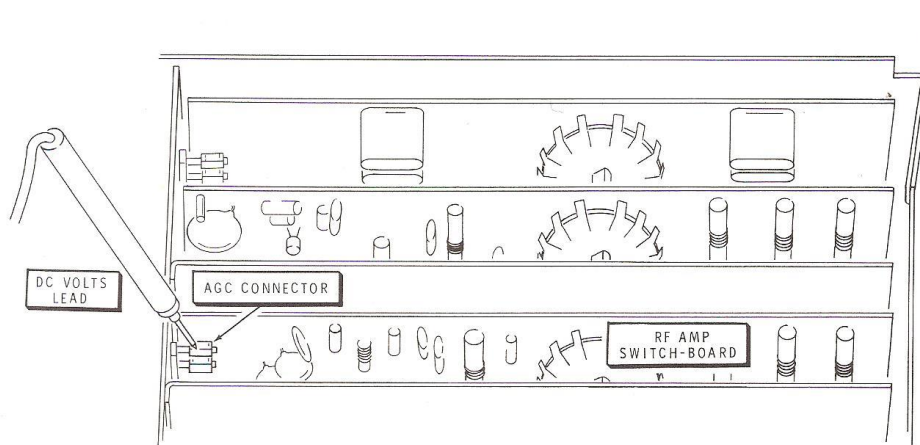

Figure 7
- () Refer to Figure 7 and position the meter dc volts lead against the AGC connector on the RF Amplifier Switch-Board.